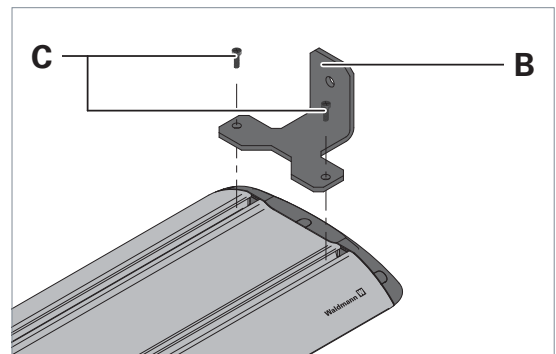

Fig. 12: Mounting the brackets for mounting type "Lateral"
- ▶ Mount the enclosed brackets **B** on the luminaire using the enclosed screws **C** and the slide nuts and tighten the screws, see Fig. 12.